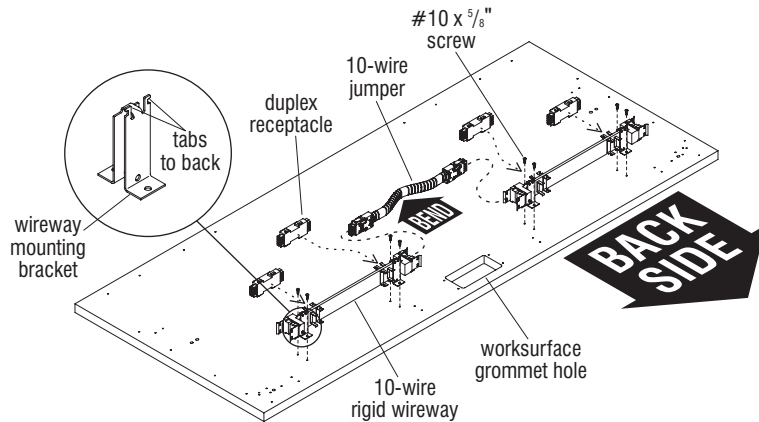

Figure 4 - Single-Sided Fixed Benching with 10-Wire Electrical
Note: Single-sided "inline" privacy screen brackets will be specified if a 60" or longer worksurface is to have more than one privacy screen installed at the back, such as when a worksurface top is separated by dividers into study carols as illustrated in Figure 4, page 37.
1. Position 10-wire rigid wireway(s) over pre-drilled holes in underside of worksurface. **Important:** The tabs on the wireway mounting brackets must be located toward the back side of the worksurface when the 10-wire rigid wireway is installed to worksurface. Secure rigid wireway(s) to underside of worksurface with four #10 x 5/8" screws per wireway (Figure 4).
2. If more than one wireway is installed to the underside of the worksurface, a 10-wire jumper must be installed between the wireways. Plug the 10-wire jumper in between the rigid wireways and **it is important to bend the excess cable toward the user-side** to keep clear of the grommet hole in the worksurface (Figure 4).
3. Per the space-planning layout, insert receptacles into the 10-wire rigid wireways at the side facing the user. When installed and worksurfaces are upright, the circuit numbers will be upside down (Figure 4).